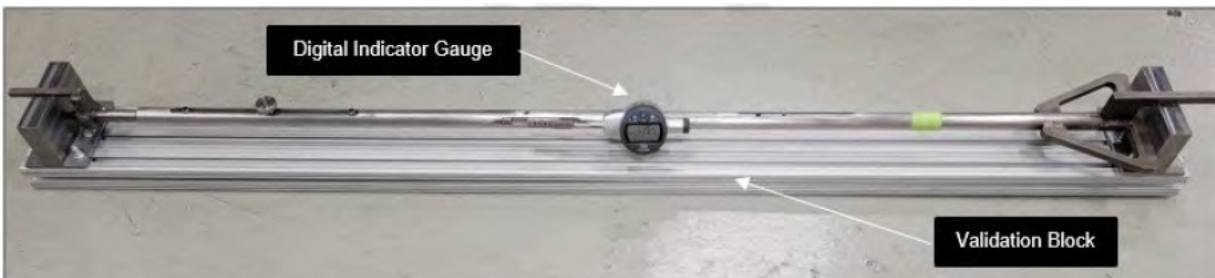

Figure 1. Validation of the Digital Indicator Gauge
9.3.2 Place the Digital Indicator Gauge in the gauge block as shown below in Figure 1.